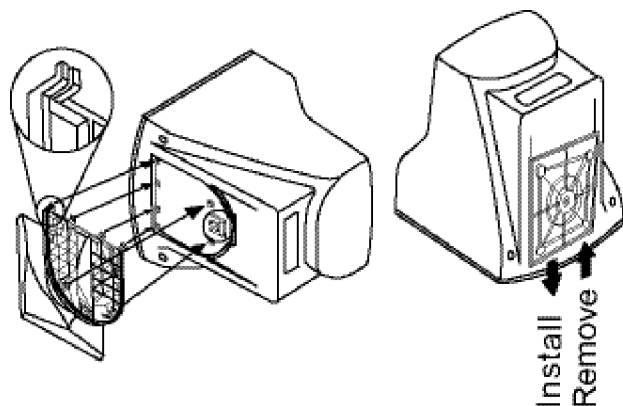

figure 2
1. Carefully turn the monitor on its side or upside down. (see figure 2)